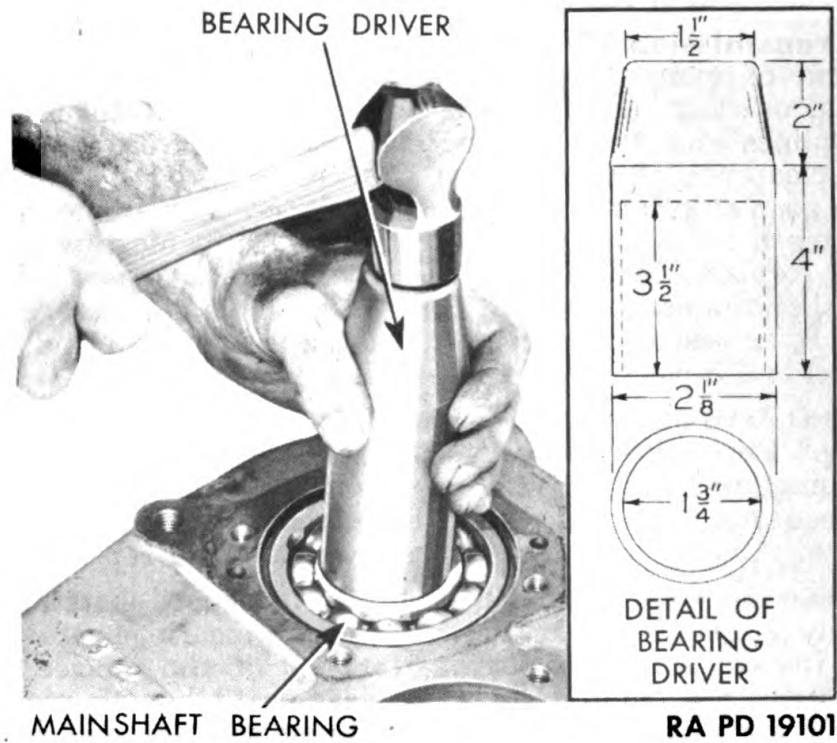
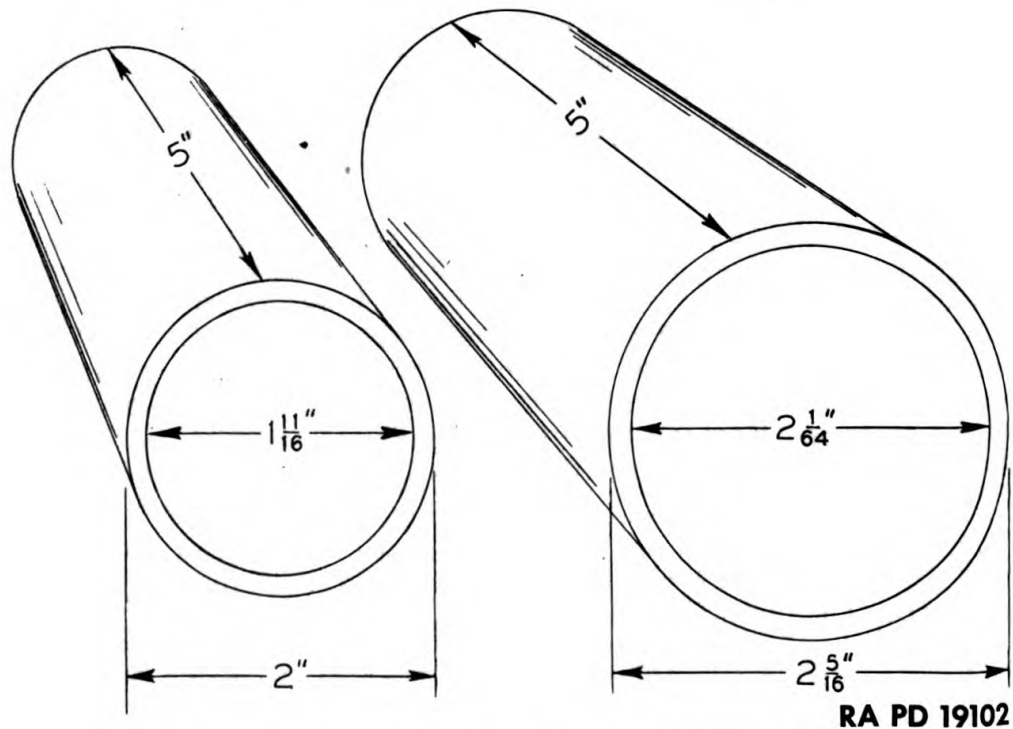

Figure 179 — Installing Mainshaft Bearing
Figure 180 — Needle Bearing Retaining Sleeve Details
f. **Replace Transfer Case Mainshaft.** Assemble mainshaft clutch collar on mainshaft under-drive gear. Shoulder of collar fits into recess in gear. Drop gear and collar onto direct and under-drive shift fork, with collar toward front of case. Slide mainshaft through gear, threaded end first, from front of case. Replace rear bearing thrust washer through rear bearing bore in case. Replace snap ring on bearing, and drive bearing into position in case (fig. 179). After bearing is installed, hold it in place and drive front end of mainshaft until shaft is fully engaged in under-drive gear. Install rear bearing cap and oil seal with new gasket, and install four cap screws and lock washers.
(1) Install rear tapered roller bearing cone onto transfer case intermediate shaft. Grease the bore of the intermediate shaft under-drive gear with heavy grease, such as wheel bearing or water pump grease. Place needle bearing spacer in bore, and arrange needle bearing rollers in bore in two rows, one on each side of spacer. There are 53 rollers in each row. Assemble intermediate shaft clutch collar on under-drive gear with shoulder of collar in recess of gear. Place gear and collar onto shift fork with collar toward rear of case.
(2) The next operation (3) can be facilitated by using two sleeves 5 inches long, the outer sleeve having an outside diameter of $2\frac{5}{16}$ inches and an inside diameter of $2\frac{1}{4}$ inches, and the inner sleeve having an outside diameter of 2 inches and an inside diameter of $1\frac{11}{16}$ inches (fig. 180). To hold needle bearing rollers in gear, place the inner sleeve inside the gear after rollers have been installed. Enter the outer sleeve through the bearing bore in front of case, and slide it over the inner sleeve extending through the gear. Holding the outer sleeve against the gear, enter the small portion of the shaft